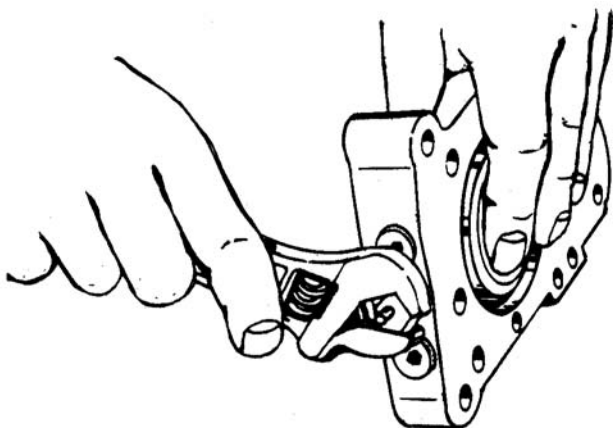

Figure 6-75. Tightening Plug
- c. Tighten plug. See Figure 6-75.